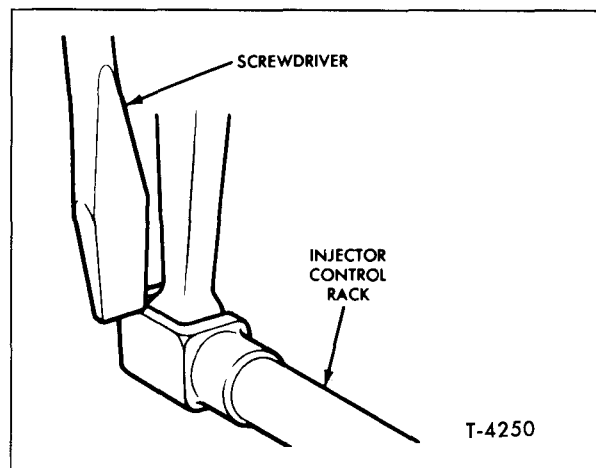

Figure 13—Checking Injector Rack Spring
- (2) Hold the speed control lever in the maximum speed position and, using a screwdriver, or finger tips press downward on the injector control rack (fig. 13). The rack should then tilt downward and when the pressure of the screwdriver is released, the control rack should "spring" back upward.